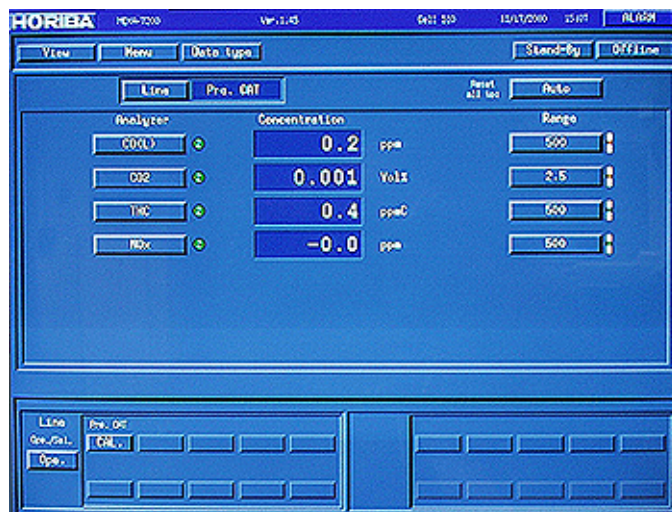

Figure 7
- 110 A zero, span, and zero calibration will be automatically performed on the analyzers. See Figure 7.